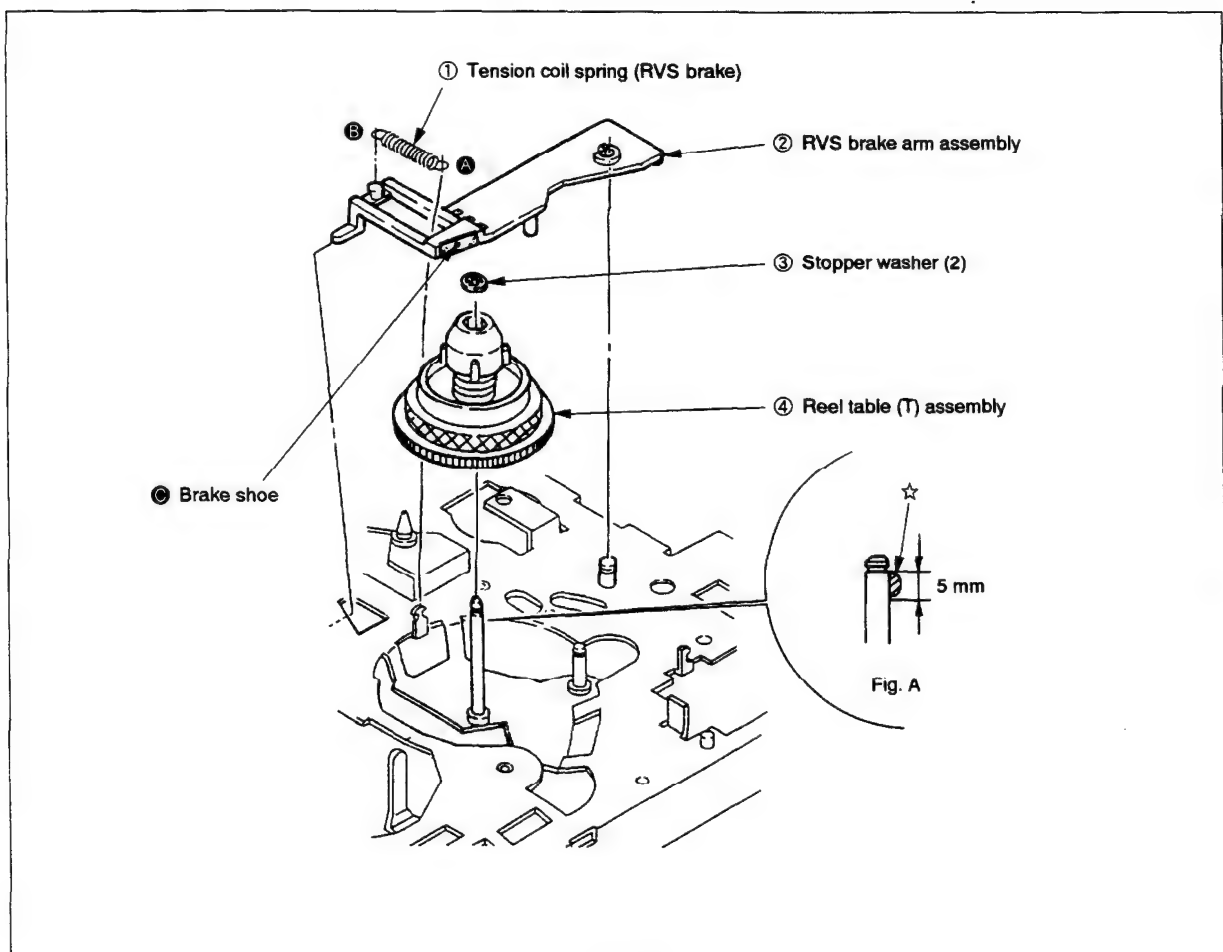

Fig. 3-14
- ① Lid opener
- ② Tension spring
- ③ Soft brake T assembly
3-12. RVS BRAKE ARM ASSEMBLY, REEL TABLE (T) ASSEMBLY (Fig. 3-14)
- 3) Remove tension coil spring ① in the order A to B.
- 4) Remove RVS brake arm assembly ②.
- 5) Remove stopper washer (2) ③ to pull out reel table (T) assembly ④.